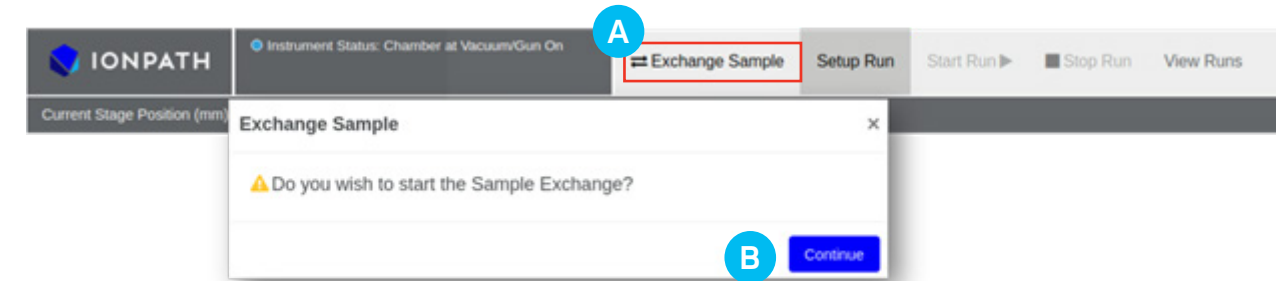
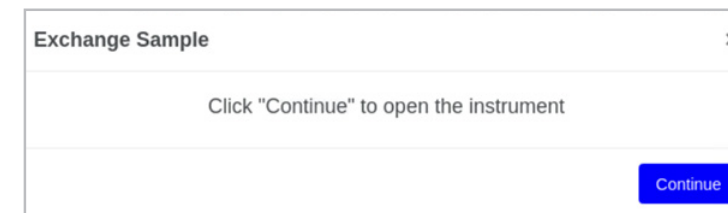

FIGURE 2.1 Exchange Sample menu tab.
FIGURE 2.2 Open sample exchange door.
2. On the **action** menu, click **Exchange Sample** (Figure 2.1, A) to initiate the sample exchange procedure.
3. Click **Continue** on the prompt (Figure 2.1, B) to proceed. When the instrument is ready to load the new slide, a second prompt will appear. Click **Continue** on the second prompt (Figure 2.2) to open the sample exchange door.